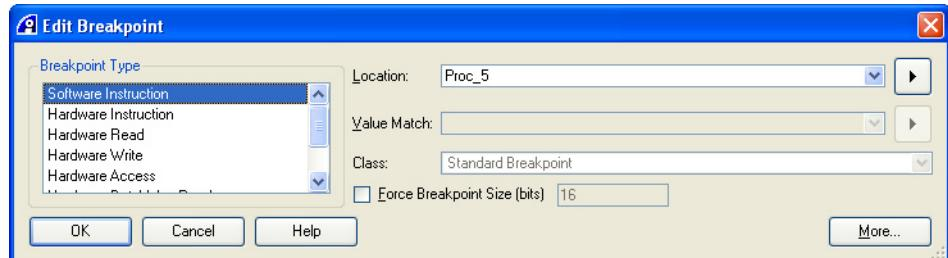

Figure 11-12 Edit Breakpoint dialog box
3. Select **Edit...** from the context menu to display the Edit Breakpoint dialog box. Figure 11-12 shows an example: